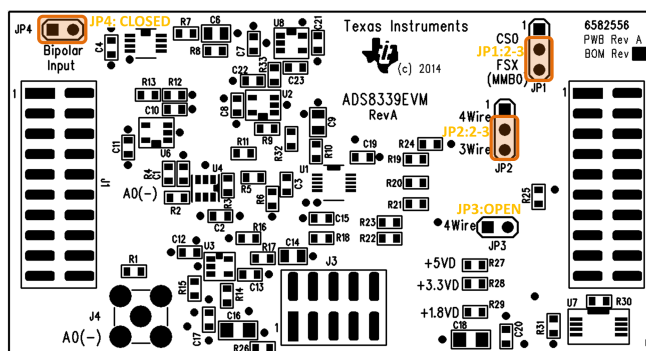

Figure 9. ADS8339EVM Jumper Configuration
- Step 3. Set JP1:2–3, JP2:2–3, JP3:open, and JP4:closed on the ADS8339EVM, as shown in Figure 9.